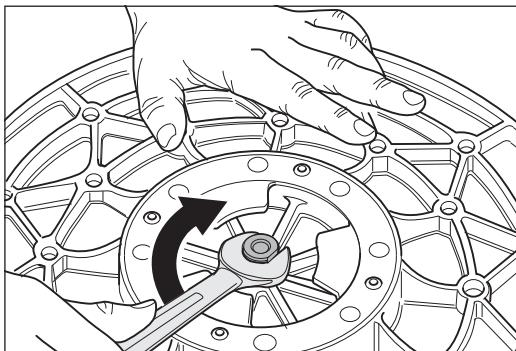

Fig. 36 To remove the centering dome, turn it **in a clockwise** direction (LEFT-HANDED THREAD)!
- 2** Turn the centering dome **clockwise** out of the sanding plate with an open-ended or ring spanner (LEFT-HANDED THREAD, Fig. 36)!